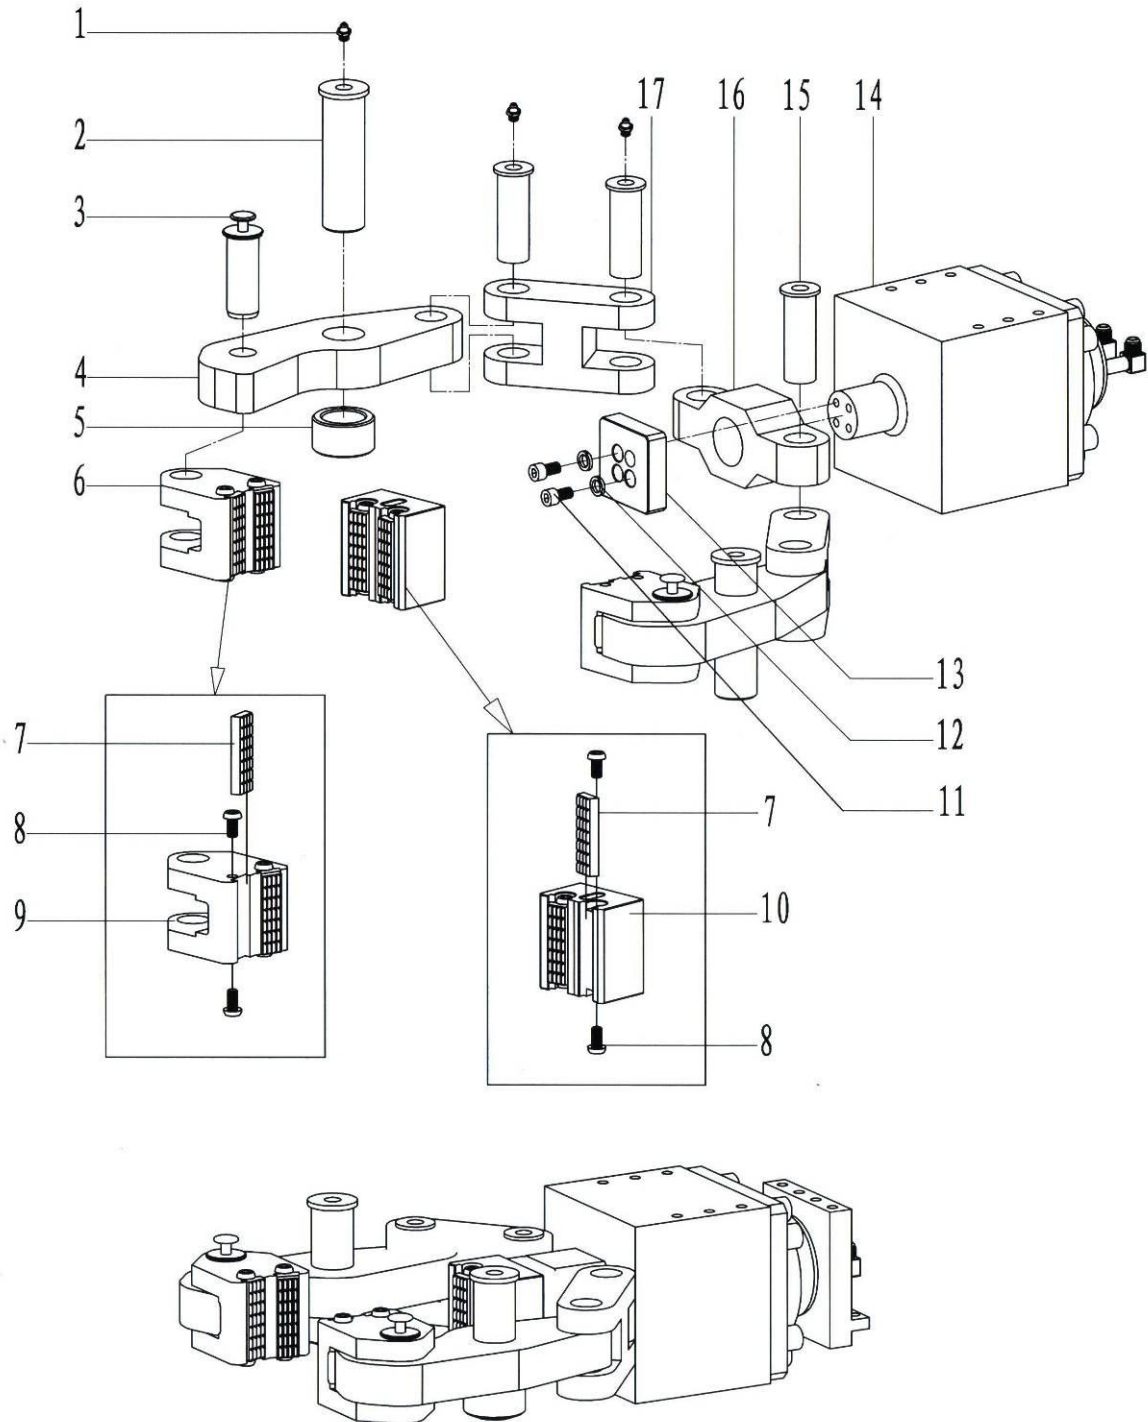

Fig.7-20
20. Assembly of back tong drive (Fig 7-20, Table 20)